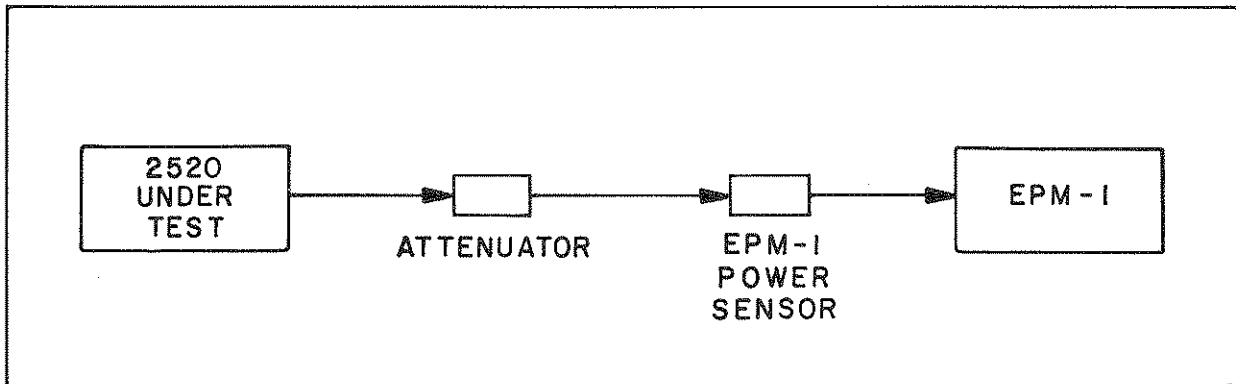

Figure 6-104. Measurements above 0 dBm
4. **Verification of +20 dBm:** Set the 2520 to +20 dBm and connect the equipment as shown in Figure 6-104. using the 20 dB attenuator. Take a reading on the EPM-1. The range switch on the EPM-1 may have to be used to get an on-scale reading (the range switch setting gets added to the meter reading). The reading should be 20 - ATTEN where ATTEN is the exact attenuation of the attenuator, to within the tolerance in Table 6-102. The tolerances in the table are derived approximately as follows: